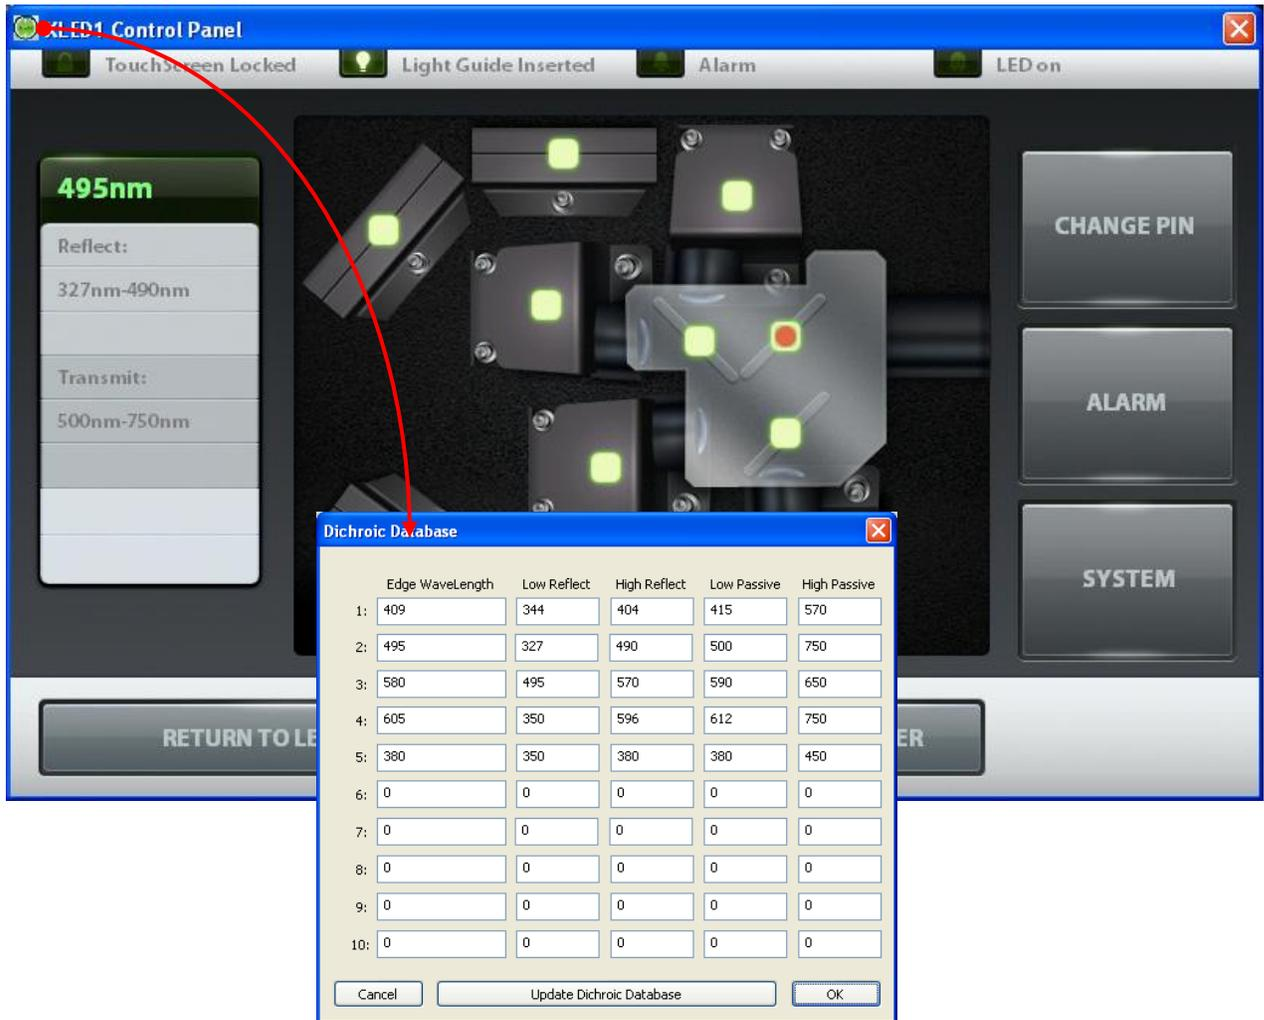

Figure 18 Dichroic Database (GUI)
- 6.4.6 Click on the green X-Cite Icon located on the top left corner of the maintenance screen and click on Dichroic Database. A Dichroic Database pop-up window will appear. Fill in the number obtained from the list below (Section 6.5) click Update Dichroic Database to save new entries. Refer to Figure 18 .